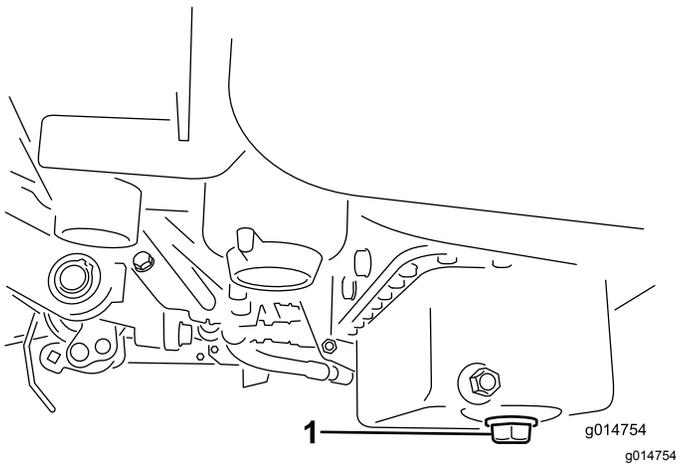

Figure 30
1. Remove the drain plug and let oil flow into a drain pan. When the oil stops, install the drain plug (Figure 30).